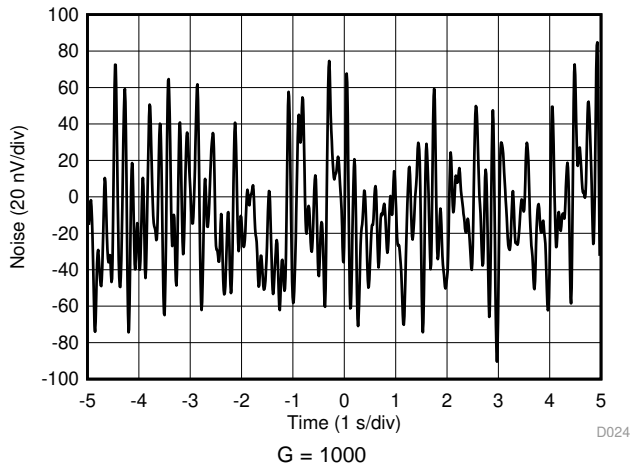

Figure 25. 0.1-Hz to 10-Hz RTI Voltage Noise
0.1-Hz to 10-Hz RTI Voltage Noise, $G = 1000$	Figure 25